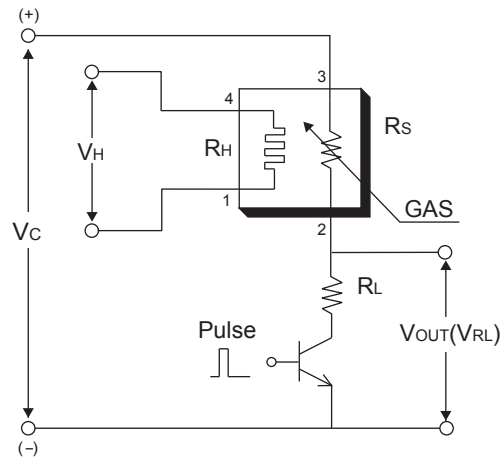

Fig. 2 - Basic measuring circuit
Figure 2 shows the basic measuring circuit. The sensor requires two voltage inputs: heater voltage (VH) and circuit voltage (VC). The heater voltage (VH) is applied to the integrated heater in order to maintain the sensing element at a specific temperature which is optimal for sensing. Circuit voltage (VC) is applied to allow measurement of voltage (VOUT) across a load resistor (RL) which is connected in series with the sensor. DC voltage is required for the circuit voltage since the sensor has a polarity. The value of the load resistor (RL) should be chosen to optimize the alarm threshold value.